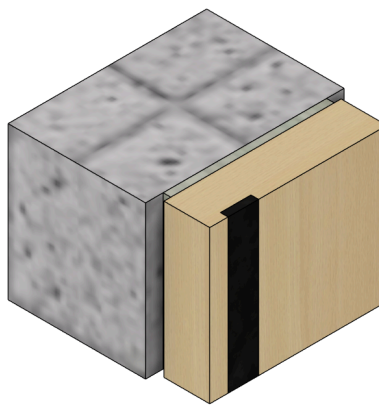
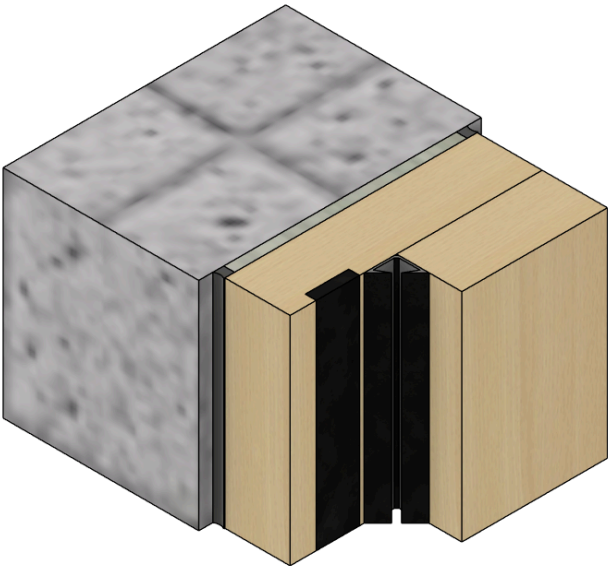

Fig.18
Fig.26
Step 9. Verify uniform perimeter gaps, correct sealing between the door leaf and frame, and compliance with specified floor clearance (Check Approved Shop Drawing). (same render as Fig.26)
Step 10. Add Architrave (Not supplied). (same render as Fig.26)
Complete all varnishing or painting and seal all fixing holes before installation of the Intumescent strip and perimeter seals (Fig.18, Fig.26)